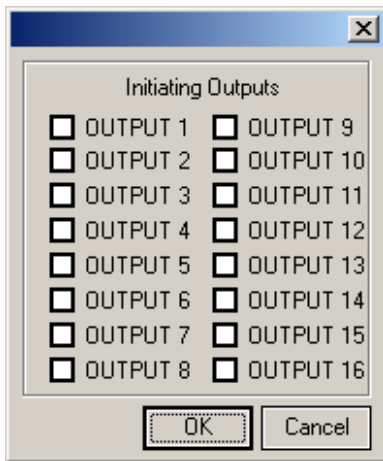

Figure 4-94 Selection Screen for Initiating Outputs
3. If desired select the Initiating Outputs button. ISSLogic will display the Initiating Outputs Selection screen (Figure 4-94).